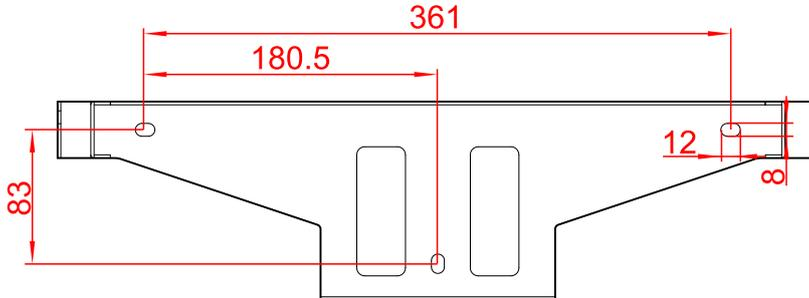
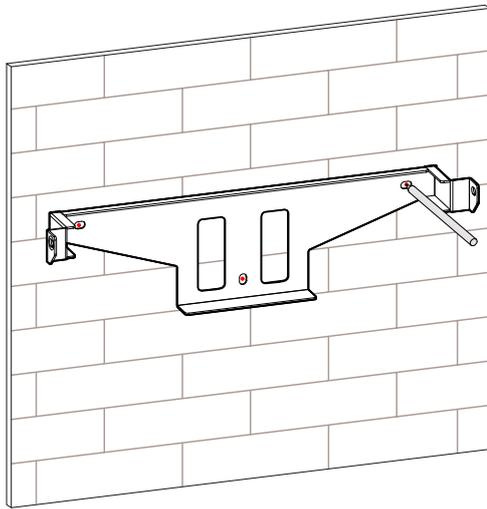

Figure3-9 Installation size (unit: mm)
Figure3-10 Mark the drilling position
- Step 2 Mark the position of installation holes on the wall according to the dimensions of the fixing holes of the installation holder (as shown in Figure3-9), and drill three holes of $\Phi 10.5\text{mm}$ on the wall according to marked position, as shown in Figure3-10.